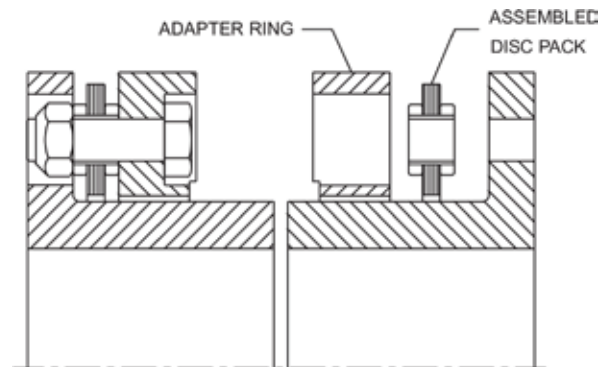

Figure 6. KD10 Disc Pack Assembly
3.7 Position the adapter ring over the hub so that the spacer pilot and counterbored holes are on the face opposite the disc pack. (see Figure 6). Make sure to align reamed holes with larger clearance holes in mating part.